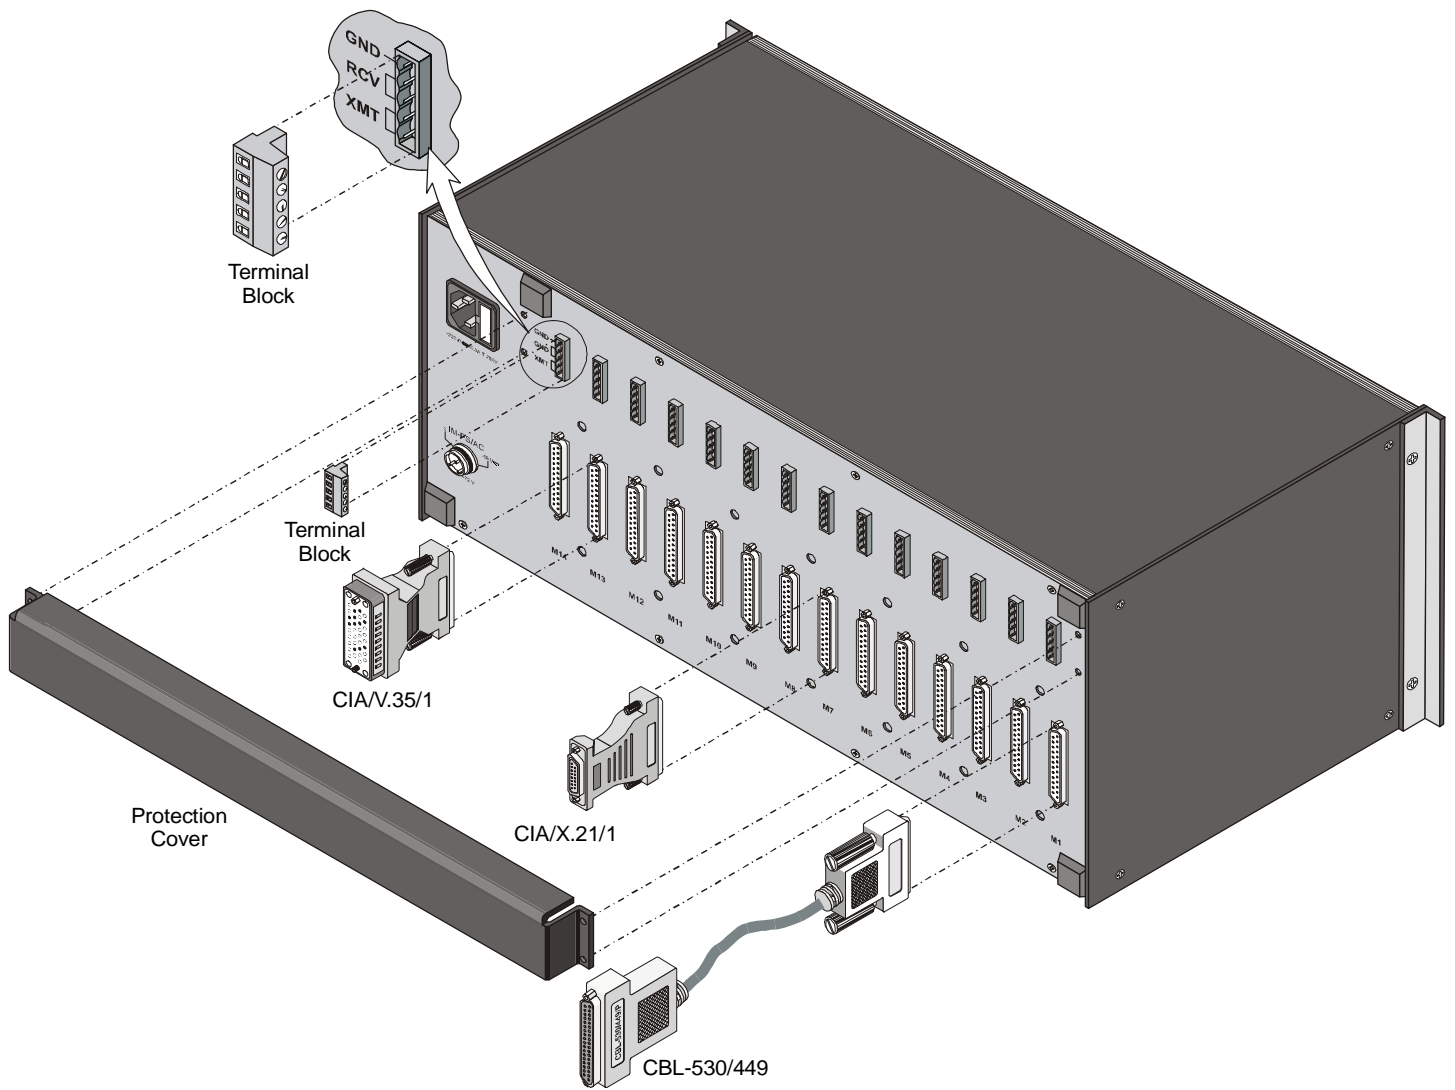

Figure 5-1. ASM-MN-214 Rear Panel
For each of the 14 cards, the rear panel (see Figure 5-1) contains a male connector for the terminal block and a DB-25 connector. A protection cover protects the terminal block connectors.
The terminal block (see Figure 5-1) is to be attached to the rear panel terminal block connectors. It contains screws for connecting the transmit and receive pairs and ground, if present.
V.36 modem cards are supplied with a RAD adapter cable CBL 530/449F, which converts between the DB-25 connector and a V.36 37-pin connector. The adapter cable and two interface attachments are also shown in Figure 5-1.